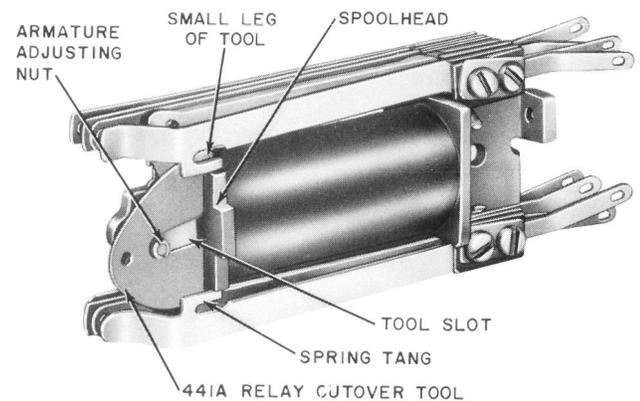

Fig. 37—Blocking R1886 Relay for Cutover Purposes
4.03 **R1886 Relays:** Fig. 37—Using the 441A
Cut the strip of KS-7187 paper to the required size. Fold the paper and insert it between the contacts, as shown for typical relays in Fig. 37 through 43. When insulating normally closed contacts, manually operate the relay before inserting the paper.